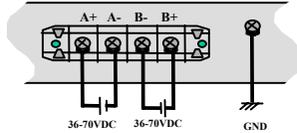

Figure C5.0: -48V DC Dual-Source, wiring connections to the External Terminal Block on a Magnum 8000X 48VDC with Dual-Source option
The -48VDC terminal block on the Magnum 8000X is located on the right rear of the unit and is equipped with five (5) screw-down lead posts (see Figure C5.0). The primary terminals are identified as positive (A+), negative (A-), and the secondary power terminals as negative (B-), positive (B+). The chassis “earth” or ground (GND), is a threaded post with a #6 nut. The dual source terminal block for 24VDC and 125VDC are similar.